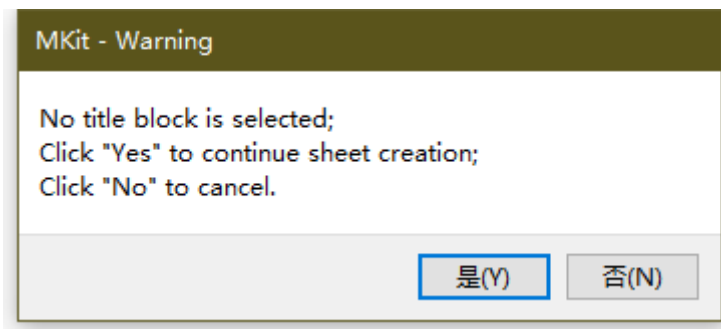

Figure 5.8 Prompt window
1. Click button to invoke function and select desired title block in window shown, if no title block is needed, click cancel button and a window displayed of prompt that asks whether to continue process (Figure 5.8);